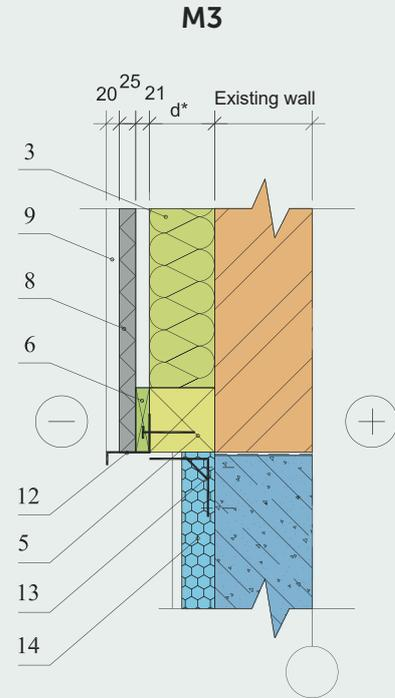

Fig. 3.
- ① Plinth wall of the building
- ② Existing external wall
- ③ Thermal insulation – mineral wool or eco wool in a timber frame
- ④ Angle
- ⑤ Squared timber of plinth of the thermal insulation frame, treated with an antiseptic (Fig. 3). Sizes according to the frame design, minimum size – approx. 60*100 (h)
- ⑥ Spaced cladding, 21*100 mm, s=605 mm
- ⑦ Frame structure of the thermal insulation frame.
- ⑧ CEWOOD panel, 25 mm.
- ⑨ Plaster A4